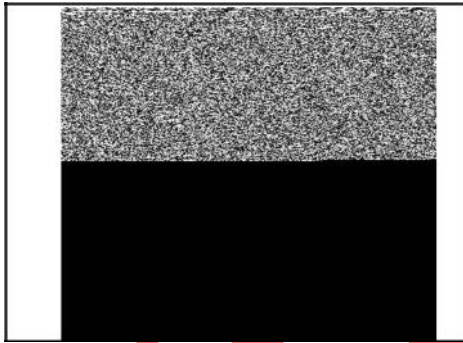

Figure 14
4. Support valve side of cylinder head on clean shop rags. Place valve springs and valve spring retainers over valve stems. Using thumbs, press against each retainer until it securely locks into groove in valve stem (Figure 14).